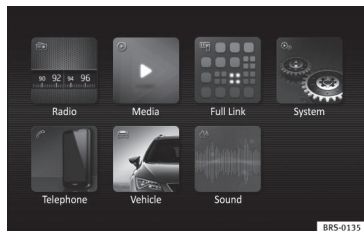

Fig. 81 Easy Connect: Main menu.
- Press the Infotainment button **MENU** /  and then the **Vehicle** » **Fig. 81** function button.